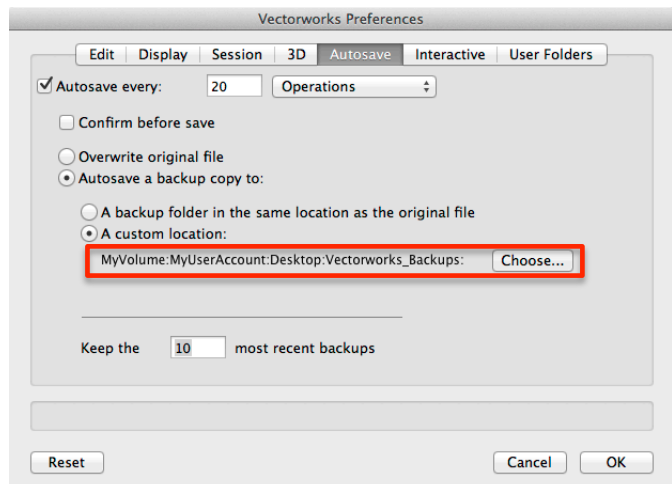

Figure 4 - Set the Autosave path to your local Hard Drive
**Autosave:** We strongly recommend using Autosave; pick the frequency settings you find most useful. To avoid interruptions during auto-saves, set the backup path to your local hard drive (see Figure 4).